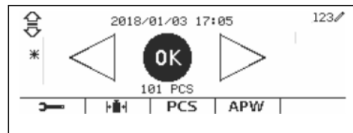

Figure 58
1. Press the  button and select Check Mode to Check Counting. (See Figure 58)